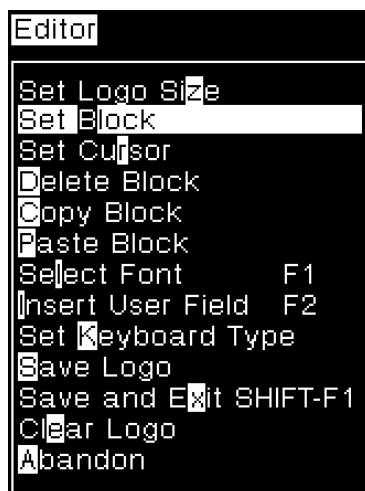

Figure 5-29: Logo Editor Menu
- 2 Select the *Set Block* option using the  arrow key (Figure 5-29).